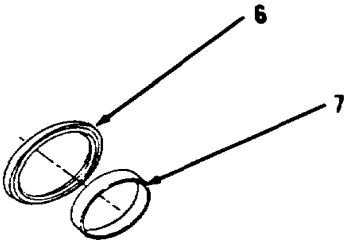

Figure 13-58.
1. Using clean engine oil, lubricate outside diameter of rear seal (6) lip and wear sleeve (7, Figure 13-58).